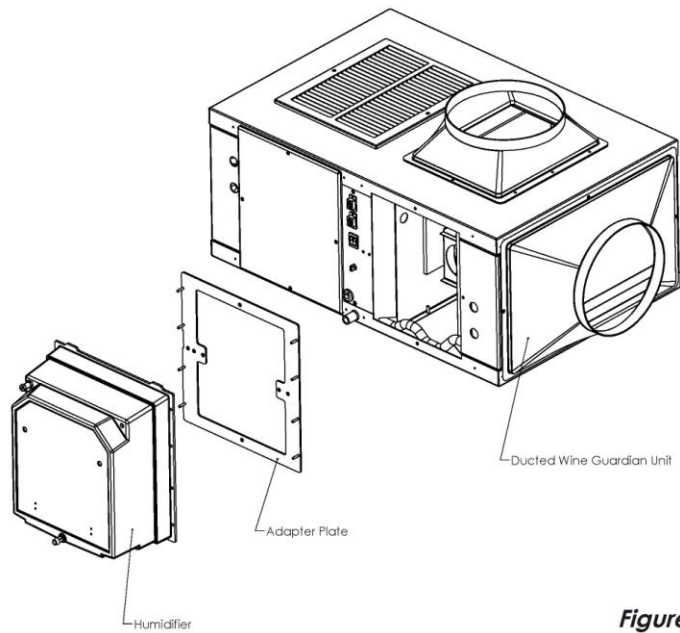

Figure 5.0
- 2) Select the proper adapter plate for the cooling unit (D025, SS025, D050, SS050 and D088, SS088 units use the same adapter plate). D200 and SS200 units require a larger adapter plate and install on the side opening using the screws from the panel removed above. The adapter plate allows the humidifier to be mounted in either a forward position or back toward the center by simply rotating the adapter plate 180 degrees. (See Figure 5.0)